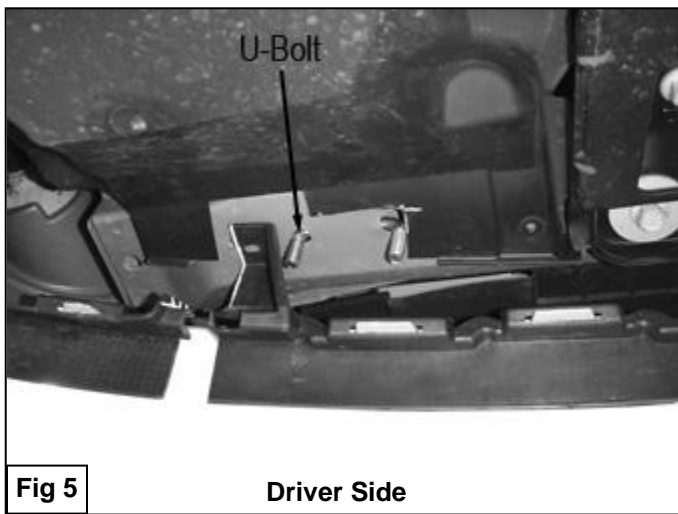

Fig 5
5. Re-Install the splash shields back onto the vehicle, note that one mounting location is missing from each splash shield. These will be secured beneath the included Mounting Brackets when installed (**Figure 5**).
6. Re-install the air valance back to the vehicle. **NOTE:** The air valance will mount back to the vehicle using the center factory bolt and the clips (**Figure 5**).
7. Starting on the driver side of the vehicle, locate the two non-threaded factory holes in the bottom of the cross member and insert driver side "U" Bolt (larger) through factory hole as shown in **Figure 5**.